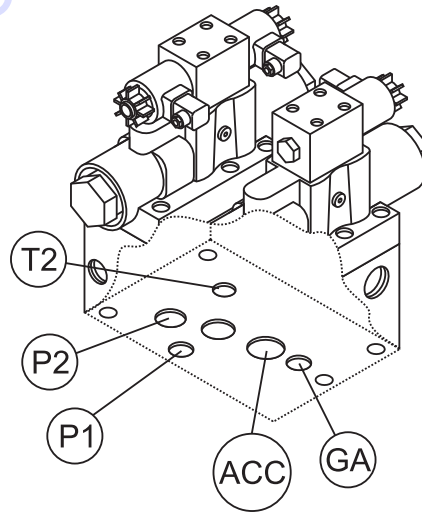

Figure 68. Manifold Block Ports
3. Fill the cone 1/3 full by volume (Figure 68-A) and rod 25 times with a 1/2" dia x 24" lg. bullet-pointed steel rod. (This is a specific requirement which will produce non-standard results unless followed exactly.) Distribute rodding evenly over the entire cross section of the sample.
4. Fill cone another 1/3 (Figure 68-B) which will make the cone 2/3 full by volume. Rod this second layer 25 times with the rod penetrating into, but not through, the first layer. Distribute rodding evenly over the entire cross section of the layer.
5. Fill cone to overflowing (Figure 68-C). Rod this layer 25 times with rod penetrating into but not through, the second layer. Distribute rodding evenly over the entire cross section of this layer.
6. Remove the excess concrete (Figure 68-D) from the top of the cone, using the tamping rod as a screed.
7. Lift the cone vertically (Figure 68-E) with a slow even motion. **DO NOT** jar the concrete or tilt the cone during this process. (Invert the withdrawn cone, and place it next to, but not touching the slumped concrete.
8. Lay a straight edge (Figure 68-F) across the top of the slumped cone. Measure the amount of slump in inches from the bottom of the straight edge to the top of the slumped concrete at a point over the original center of the base. The slump operation must be complete in a maximum elapsed time of 1-1/2 minutes. Discard the concrete. **DO NOT** use it in another tests.